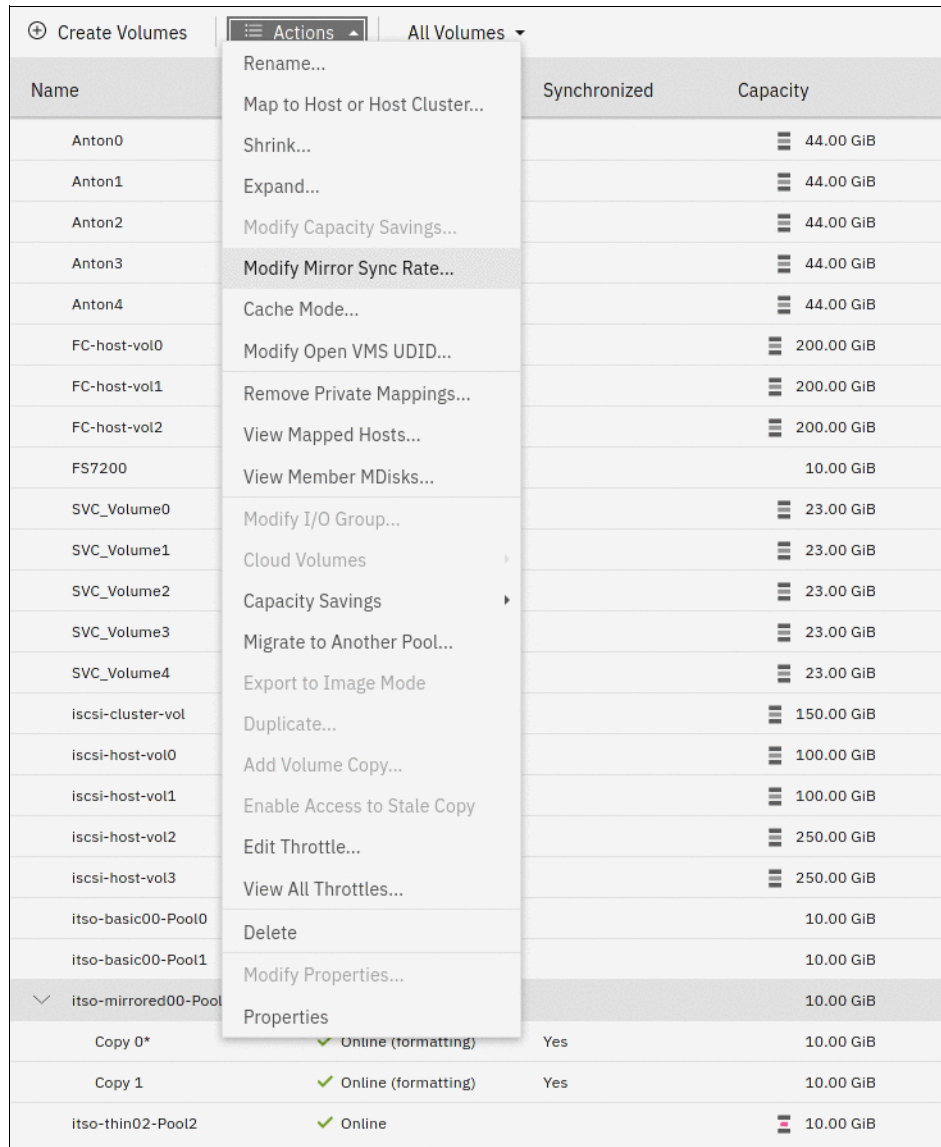

Figure 6-50 Modify Mirror Sync Rate menu item
1. From the **Volumes** menu, select the volume that you want to modify. Select **Actions** → **Modify Mirror Sync Rate...**, as shown in Figure 6-50.